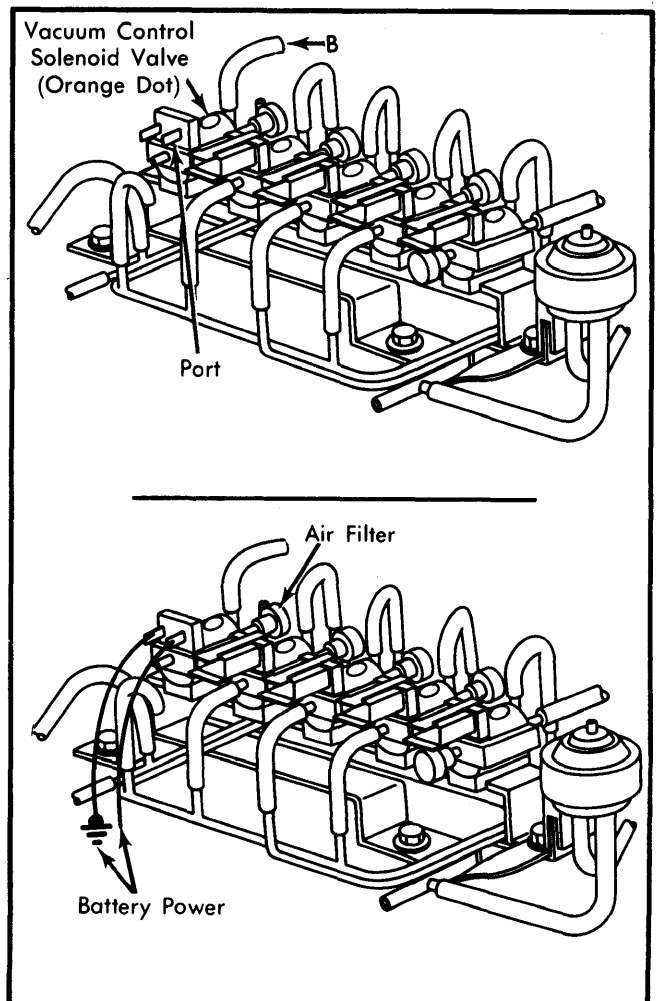

Fig. 1 Testing Vacuum Control Solenoid Valve
1) Disconnect vacuum sensing tubes from vacuum control solenoid valve (Orange color dot). Blow through solenoid valve from vacuum tube "B" shown in Fig. 1. Air should escape at front port.